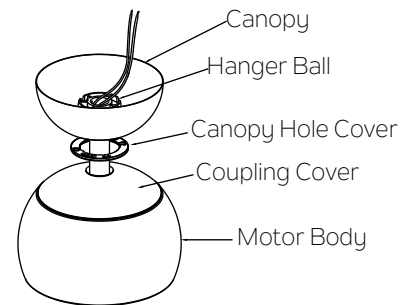

Fig. 8
**Step 4.** Slip the coupling cover, canopy hole cover and canopy onto the downrod. Carefully reinstall the hanger ball onto the downrod. Make sure the cross pin is in the correct position and the set screws are tight and the wires are not twisted. ( Fig. 8)